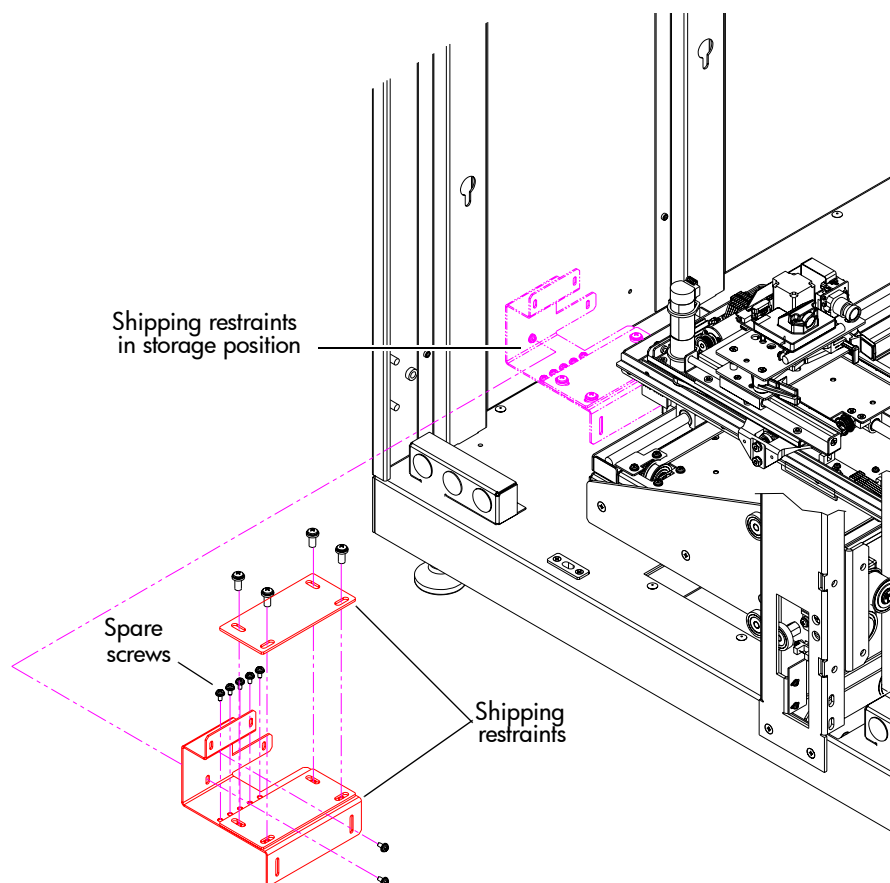

Figure 40: Shipping restraints - storage location
3. Remove the robot shipping restraints from their storage location under the left cartridge bin panel (see Figure 40).